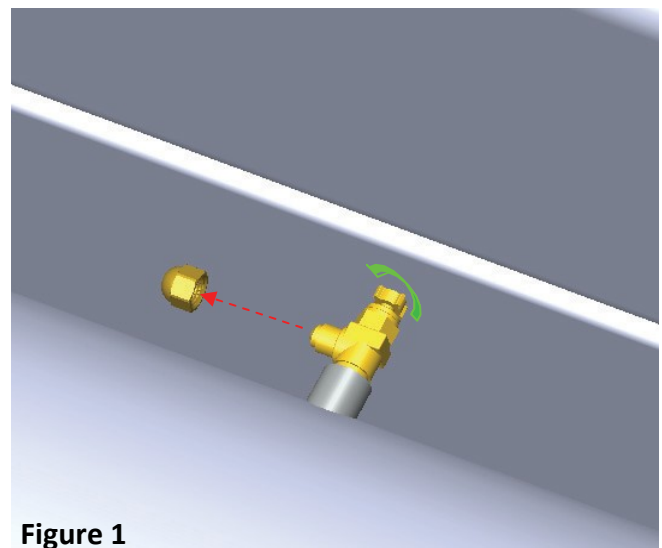

Figure 1
2. Open the 80% bleeder valve and/or the evacuation valve on the tank you want to purge. The caps on these valves will need to be removed prior to there opening. **Figure 1. Note: The tank should not have fuel at this time. It should be totally evacuated. Some pressure may build up if the tank was previously in-service and closed up for a period of time before purging. Release this pressure build up before starting the purging process.**